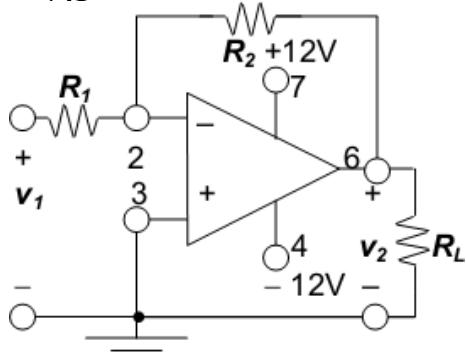

Fig. 2 Inverting Amplifier
The circuit of an Inverting Amplifier is shown in Fig. 2. If the opamp can be considered to be ideal, i.e. it has no limitations with regard to voltage, current or frequency, the voltage gain of this amplifier is given by
1. Build the circuit of Fig. 2 on bread board. Use general purpose OPAMP IC-741.